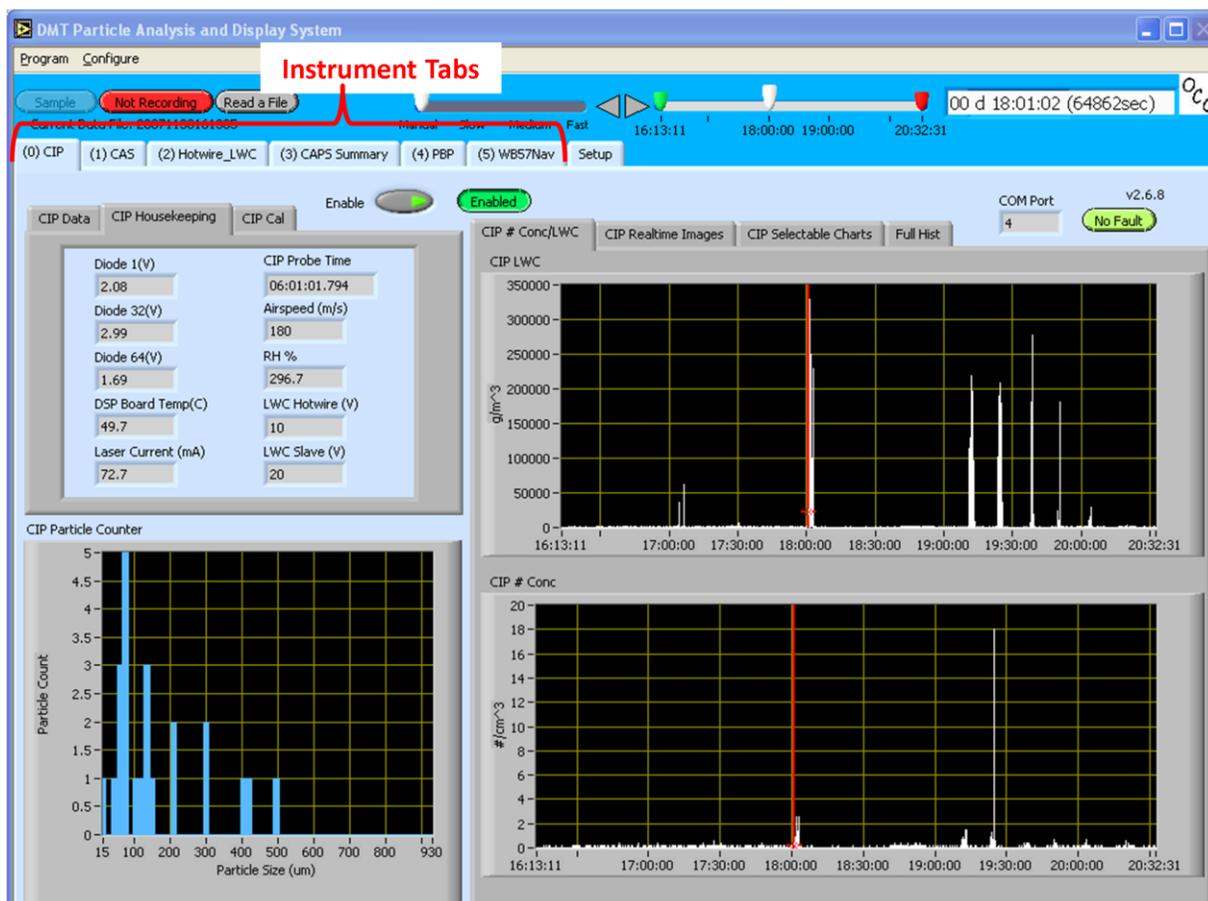

Figure 13: Instrument Tabs
- 2) You should see the instruments you want to use in the tabs across the top of the window. Each instrument will have its own tab, as in Figure 13. If you do not see all the instruments you want, or you see ones you do not want, you may be loading the wrong configuration file.